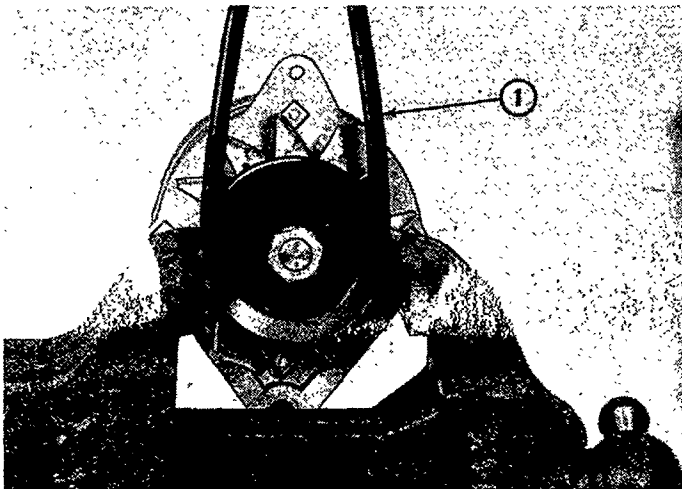

Figure 34
1. The pulley is a slip-fit on the rotor shaft, positioned with a Woodruff Key. To remove the nut and lockwasher from the shaft, clamp the pulley in a vise using an old oversize belt to protect the pulley from the vise jaws. See Figure 34.